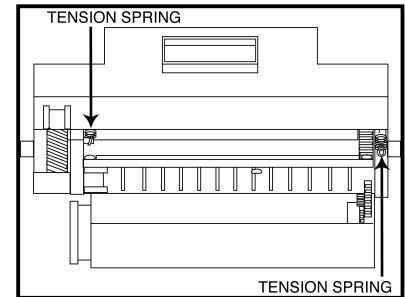
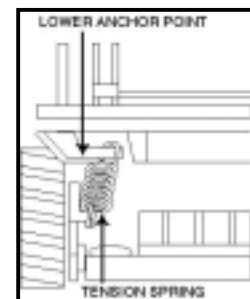

Figure 1
Figure 2
1. With the cartridge face down and toner hopper facing you, use needle nose pliers to remove the two tension springs (Fig. 1). Note the right side spring placement (Fig. 2).